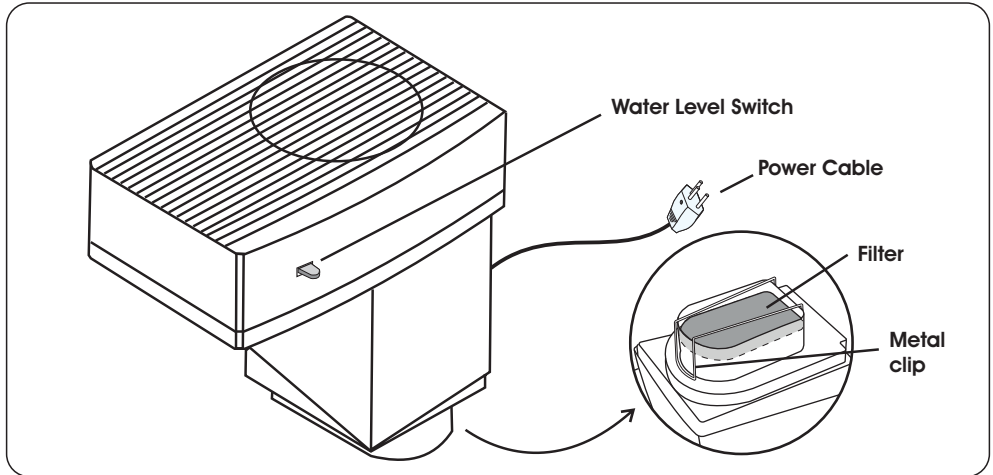

Fig. 5
- ▶ **WATER LEVEL SWITCH** - Device (Fig. 5, page 7) which function is to turn the equipment off in the following cases: